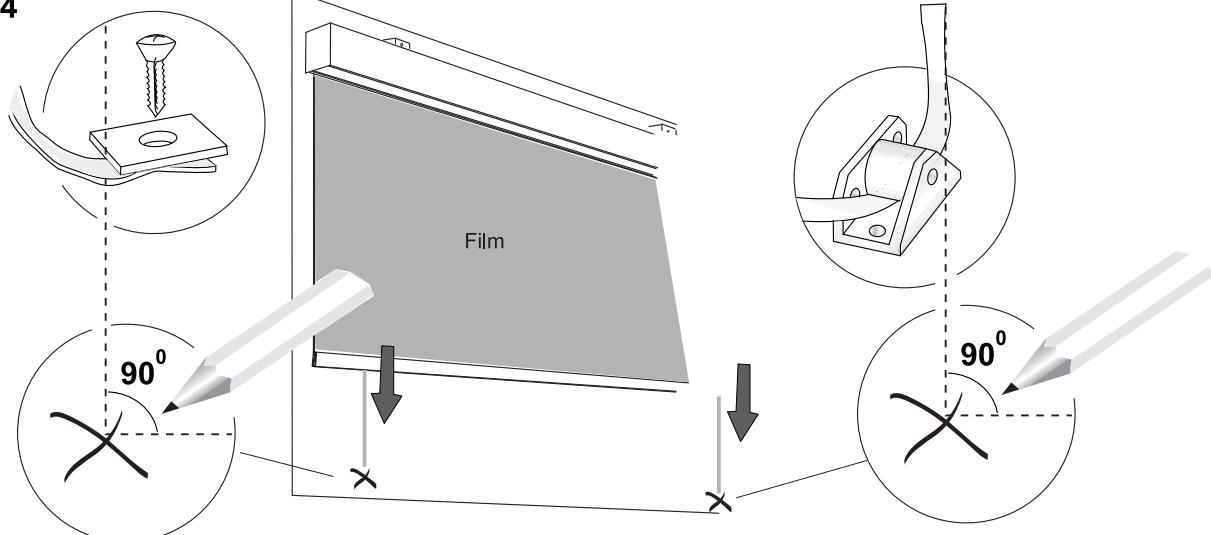

Fig 5
- Fix the bandbox in position re Fig. 5 (normal position, other positions can be necessary). The distance 60-80 cm is important accordig to the handling of the system. Cut the band with ca 30 cm left over re Fig. 5.